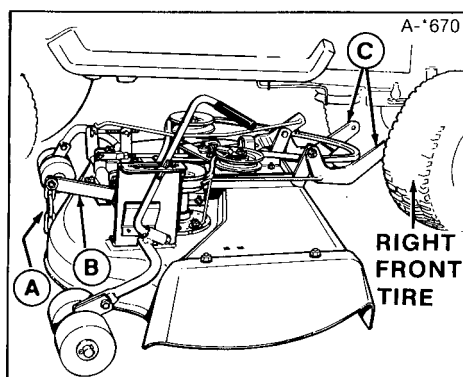
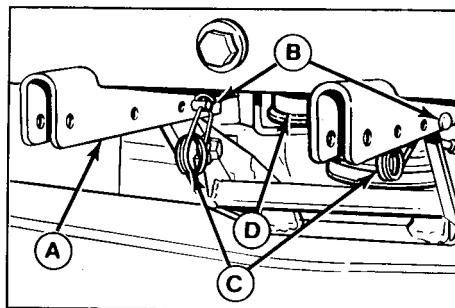
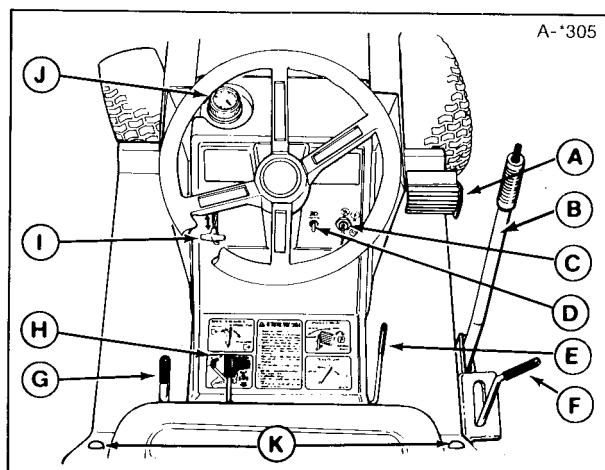

Figure 1. Installing 36" Mower
Figure 2. Mower Hitch Attached
Figure 8. Tractor & Mower Controls
The lift chain (A, figure 1) should be connected to the rear hole in lift arm (B) unless optional large lift lever (B, figure 8) is used to raise mower. With large lift lever, connect chain in forward hole.
2. Turn the tractor front wheels full left (figure 1).
aligning arms (C, figure 1) with tractor hitch (A, figure 2).
Refer to figure 8 for an explanation of tractor and mower controls.